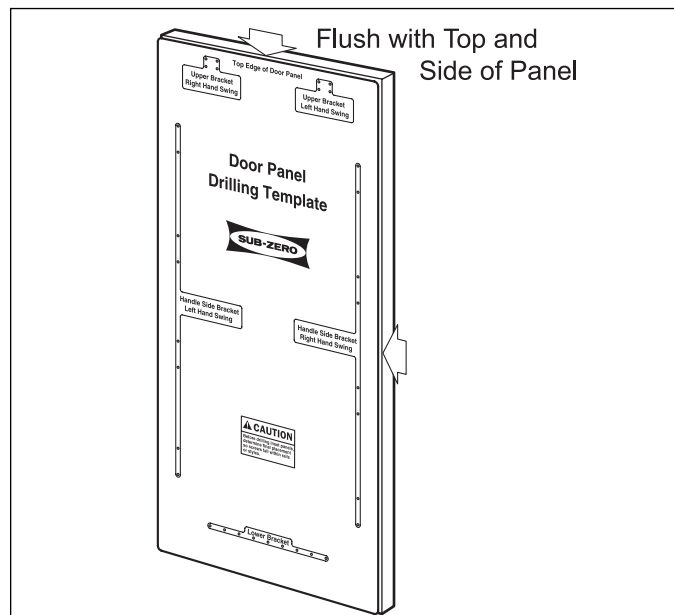

Figure 2-8. Door Panel Drilling Template & Panel
2. Position plastic drilling template (provided with unit) on back of door panel, flush with upper edge and side of door panel. (See Figure 2-8)
**NOTE:** The size of the panel shown in Figure 2-8 is just large enough to cover the door. Actual door panel sizes may vary depending on design/installation variations.